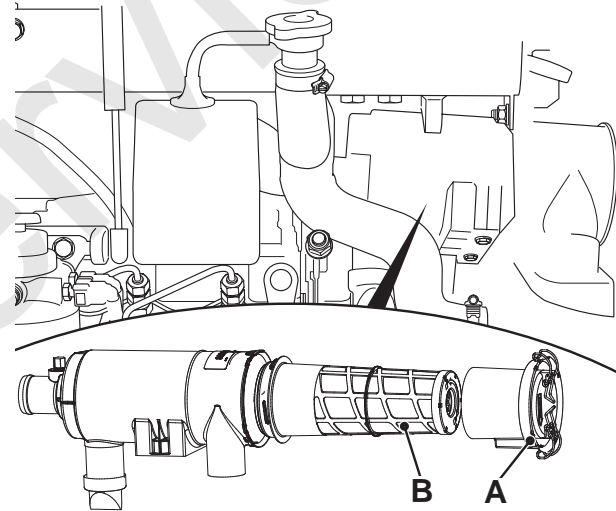

Fig 88.
- 2 Undo the two retaining clips holding the cover **A** and remove the element **B** by twisting anti-clockwise. Do not tap or knock the element as you remove it. → Fig 88. (□ 230).